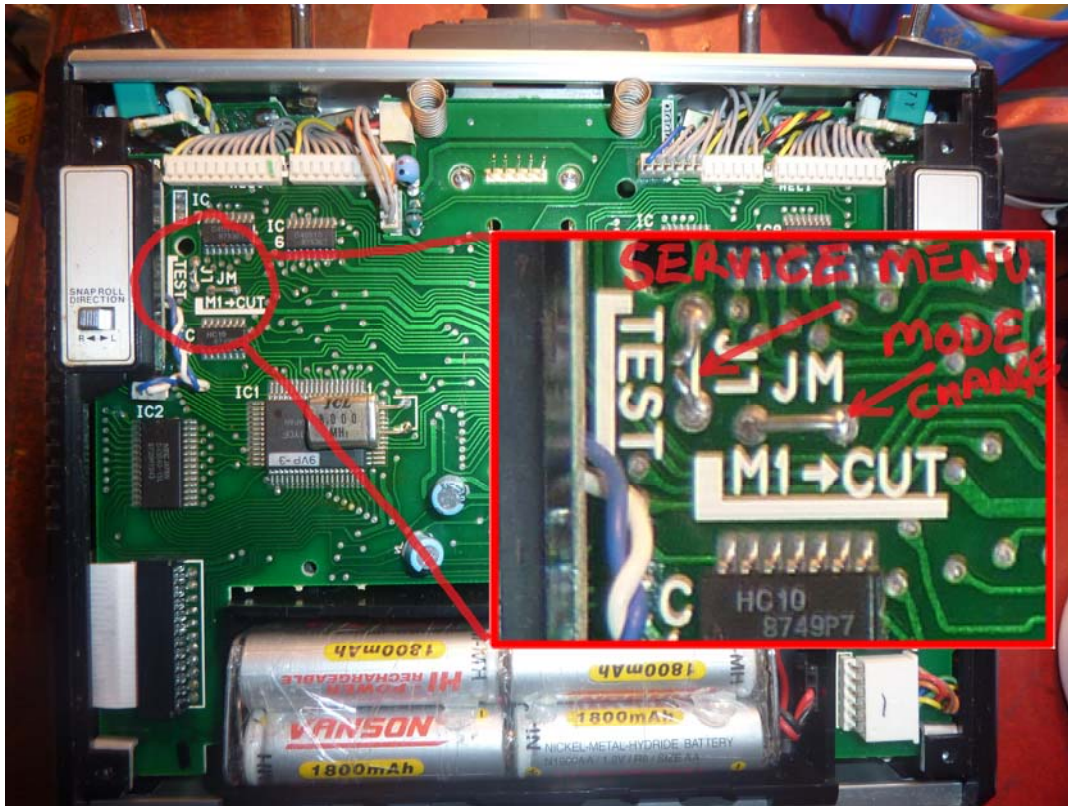

Figure 1 Main PCB with service menu and mode change jumpers
- c. **Enabling the Service and Test Menu:** The photo (Figure 1) below shows the single link you need to make to get your 9V to boot into the service mode. You may find (as I did) that this is hidden by a sticker – if so remove it. Once you are done 'servicing' simply break the link. I simply soldered the two snipped ends of the jumper ("J1") on the board back together, and then desoldered them when done.
- d. **Changing the Stick Mode (Mode 1 and 2):** The other link, "JM" in the photo (Figure 1), probably changes the stick Mode of the transmitter, depending on whether it is shorted or not – I didn't test this, but it seems very likely that: